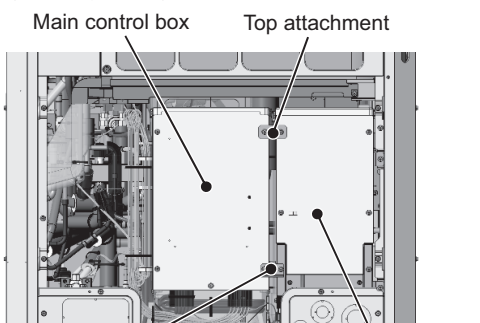

Figure 4
- (4) Remove the top attachment connecting the main control box and the inverter control box by unscrewing the two screws. (See Figure 4.)
- (5) Remove the bottom attachment connecting the main control box and the inverter control box by unscrewing the two screws. (See Figure 4.)